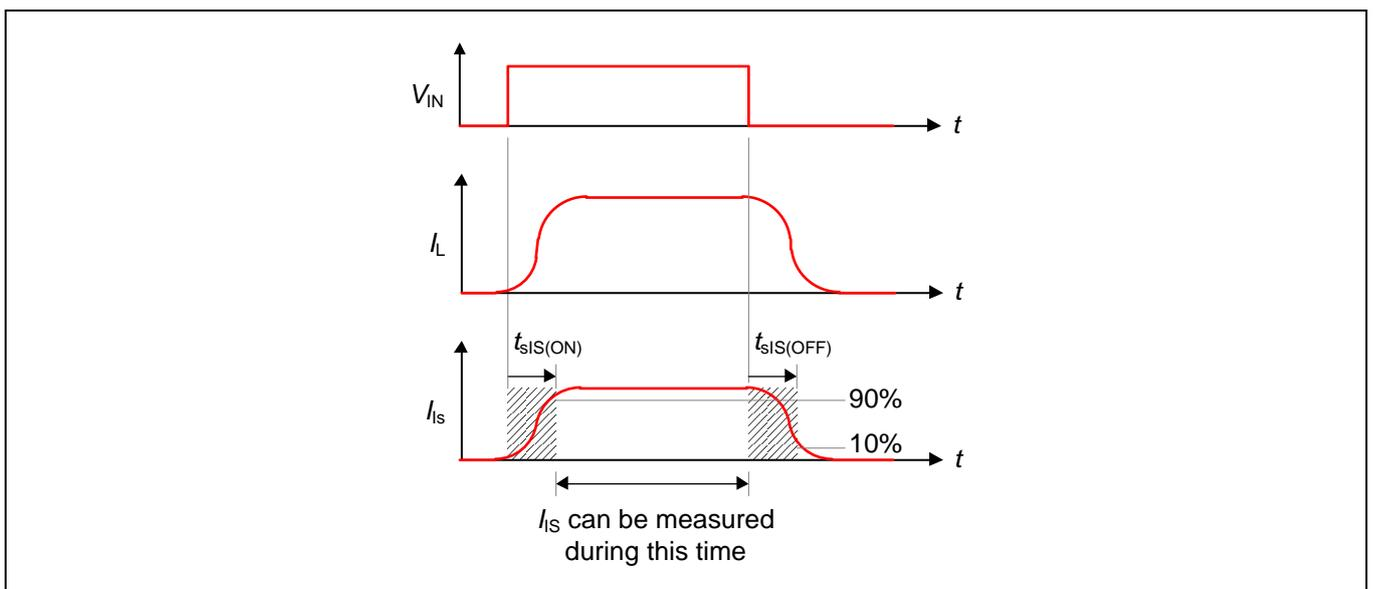
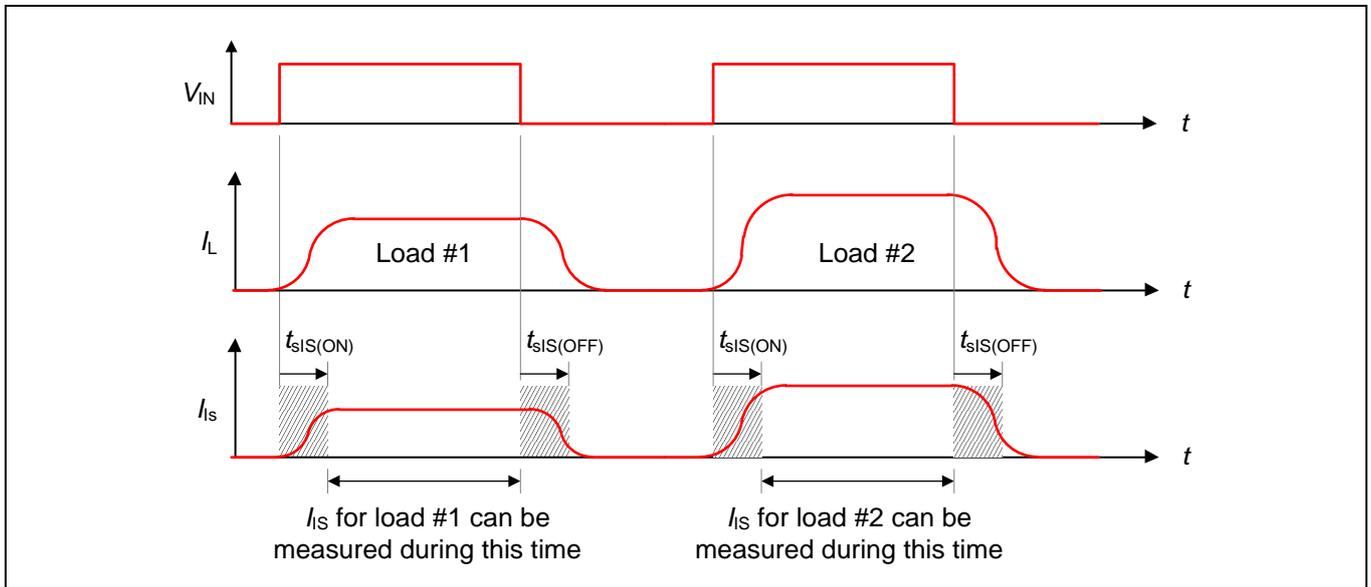

Figure 9 Relationship between I_{IS} and I_L in conventional devices
Figure 10 Measuring two loads using conventional devices
Now consider the information that is available when working with a conventional high-side power switch as illustrated in Figure 9.
The shaded areas of Figure 9 (and any equivalent illustrations later in this application note) indicate the times when the I_{IS} output is transitioning between ON/OFF states. These transition times, which are represented by $t_{SIS(ON)}$ and $t_{SIS(OFF)}$, are the 90% I_{IS} and 10% I_{IS} current sense settling times, respectively. The analog sense current signal is invalid during the current sense settling times.
As can be seen in Figure 9, the only value that is available is the sense current I_{IS} . There is no way to calibrate the sense current offset or the slope from a single reading. The only way to calculate these values is to use a 2-point calibration technique, which involves switching in two separate loads during manufacturing test as illustrated in Figure 10.
From Figure 10 and Equation (5), k_{IS} is traditionally calculated using a 2-point calibration technique, which involves switching in two separate loads during manufacturing test. From Equation (7), $I_{IS} = V_{IS} / R_{IS}$, so substituting for I_{IS} in Equation (5) allows k_{IS} to be calculated as shown in Equation (9).
The traditional method for determining the value of k_{IS} is called 2-point calibration. This involves switching two known loads at known temperatures, measuring the analog sense current for each load, and then using these measurements to calculate the k_{IS} and $V_{IS(OFFSET)}$ values as discussed in Figure 10 and Equation (5) and Equation (6).